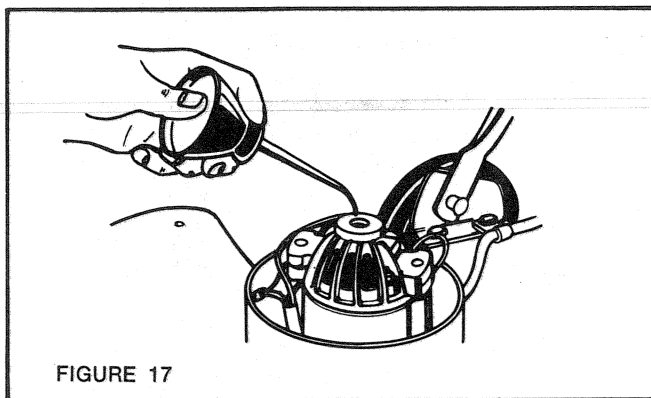

FIGURE 17
3. Place five (5) drops of motor oil in the felt reservoir at the top of the motor (Figure 17).